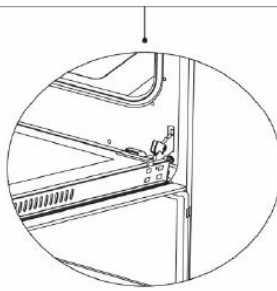

Figure 8.2
- Set the hinge lock to the widest angle as in figure 8.2. Adjust both hinges connecting the oven door to the oven to the same position.